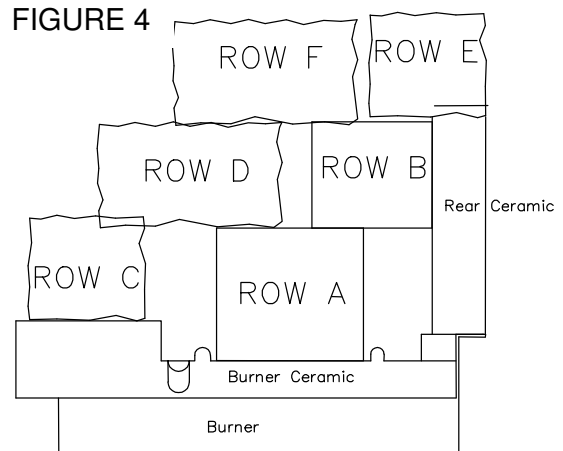

FIGURE 4
- 2 With reference to Figure 4, lay the coals as follows: